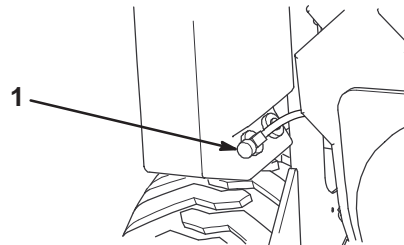

Figure 32
- If you have a Dingo 322, turn the valve at the bottom of each fuel tank as illustrated in Figure 32.